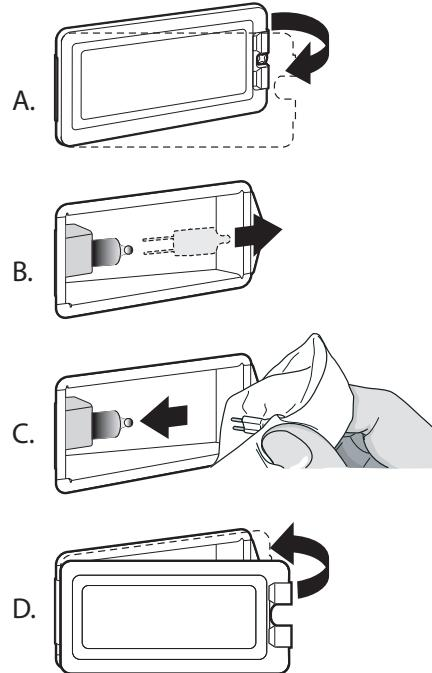

Figure 32: Bulb Replacement
3. Slide the tip of a flat blade screw driver between the fixing clip and the lamp housing (Figure 32, A).
6. Remove the bulb by grasping and sliding the bulb straight back until the two prongs have cleared the ceramic holder (Figure 32, B).
8. Press down to seat the bulb (Figure 32, C).
9. Slide the protective lens into the holder clip and push the other end until the fixing clip snaps back into the housing (Figure 32, D).